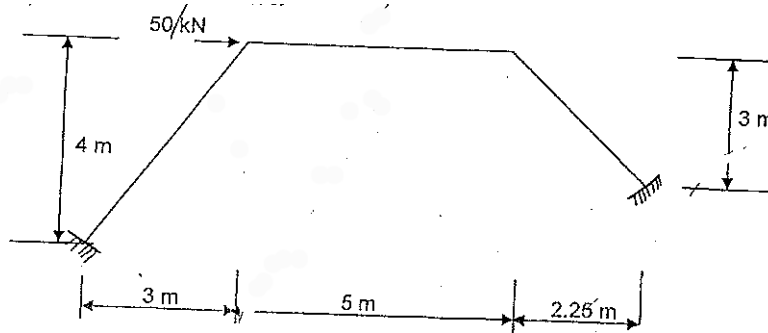

Fig. Q. 15. (b)
- b) Analyse the portal frame shown in Fig. Q. 15 (b) by moment distribution method and draw the bending moment diagram. Assume flexural rigidity is constant for all the members.